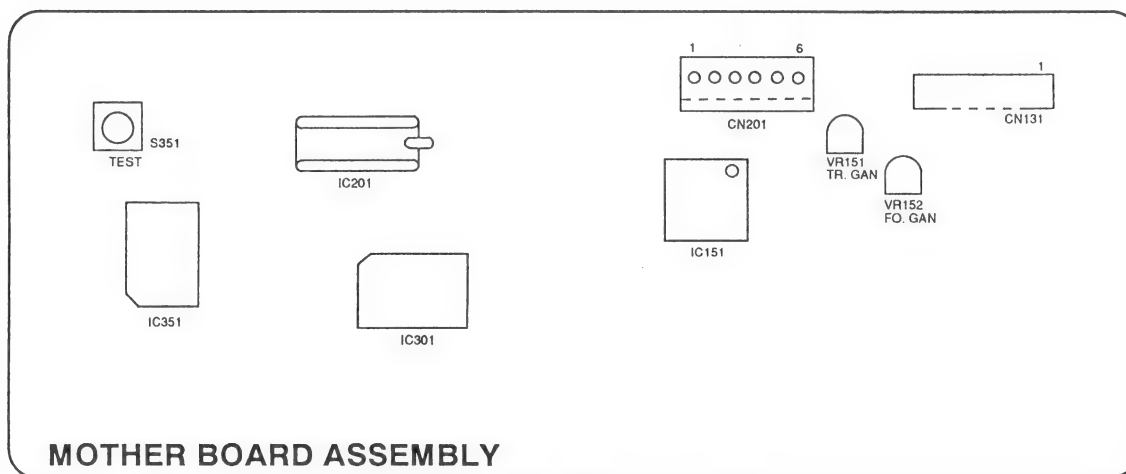

Figure 1 Adjustment Locations
2. Press the test mode switch (S351). (See Figure 1.)